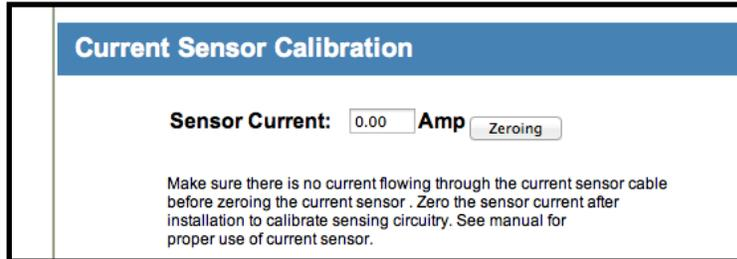

Figure 3.8 - Current Sensor Calibration
- At the conclusion of the test, the measured battery runtime and last test date will be displayed in the Battery Test section (See Figure 3.8, page 28). The results will also be emailed if emailing is enabled.
The Current Sensor Calibration block is at the bottom right of the FPO page (See Figure 3.8). This section allows the current sensor to be calibrated to allow the most accurate current readings.